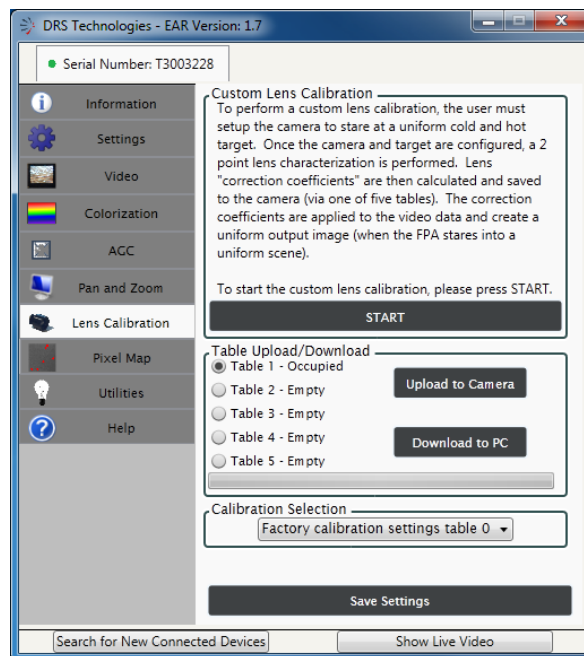

Figure 38. Lens Calibration Tab
3. After entering a valid pass key, select Verify Key. Once the pass key is verified, the Lens Calibration tab (shown in Figure 38) is displayed. If the pass key is invalid, a pop up message provides a warning and the user is returned to the Verify Key screen.
- In Figure 38, the user is prompted to start the custom lens calibration process, See START button at the bottom of the Custom Lens Calibration task pane. One of the 5 custom tables may be selected. In this example, Table 1 is occupied with existing data (note, this is not the factory calibration settings. Factory calibration data is stored elsewhere and will always be available to return the camera to its original factory calibration settings). The user may select or the Return to Factory Calibration Settings from the pull-down menu located in the Calibration Selection task pane.